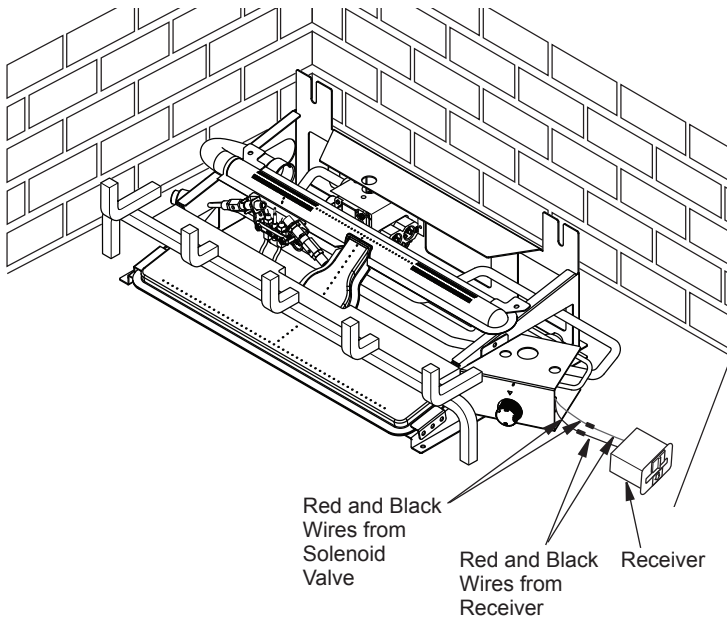

Figure 21 - Attaching Remote Receiver to Solenoid Valve
1. Remove battery cover on receiver as shown on the box. Install four AA size batteries into receiver, (see Figure 21).
2. Locate red and black wires from solenoid valve on right side of heater. Connect wires to receiver, red to red, black to black, (see Figure 21).
3. Place receiver to the side of the log set, (see Figure 21).